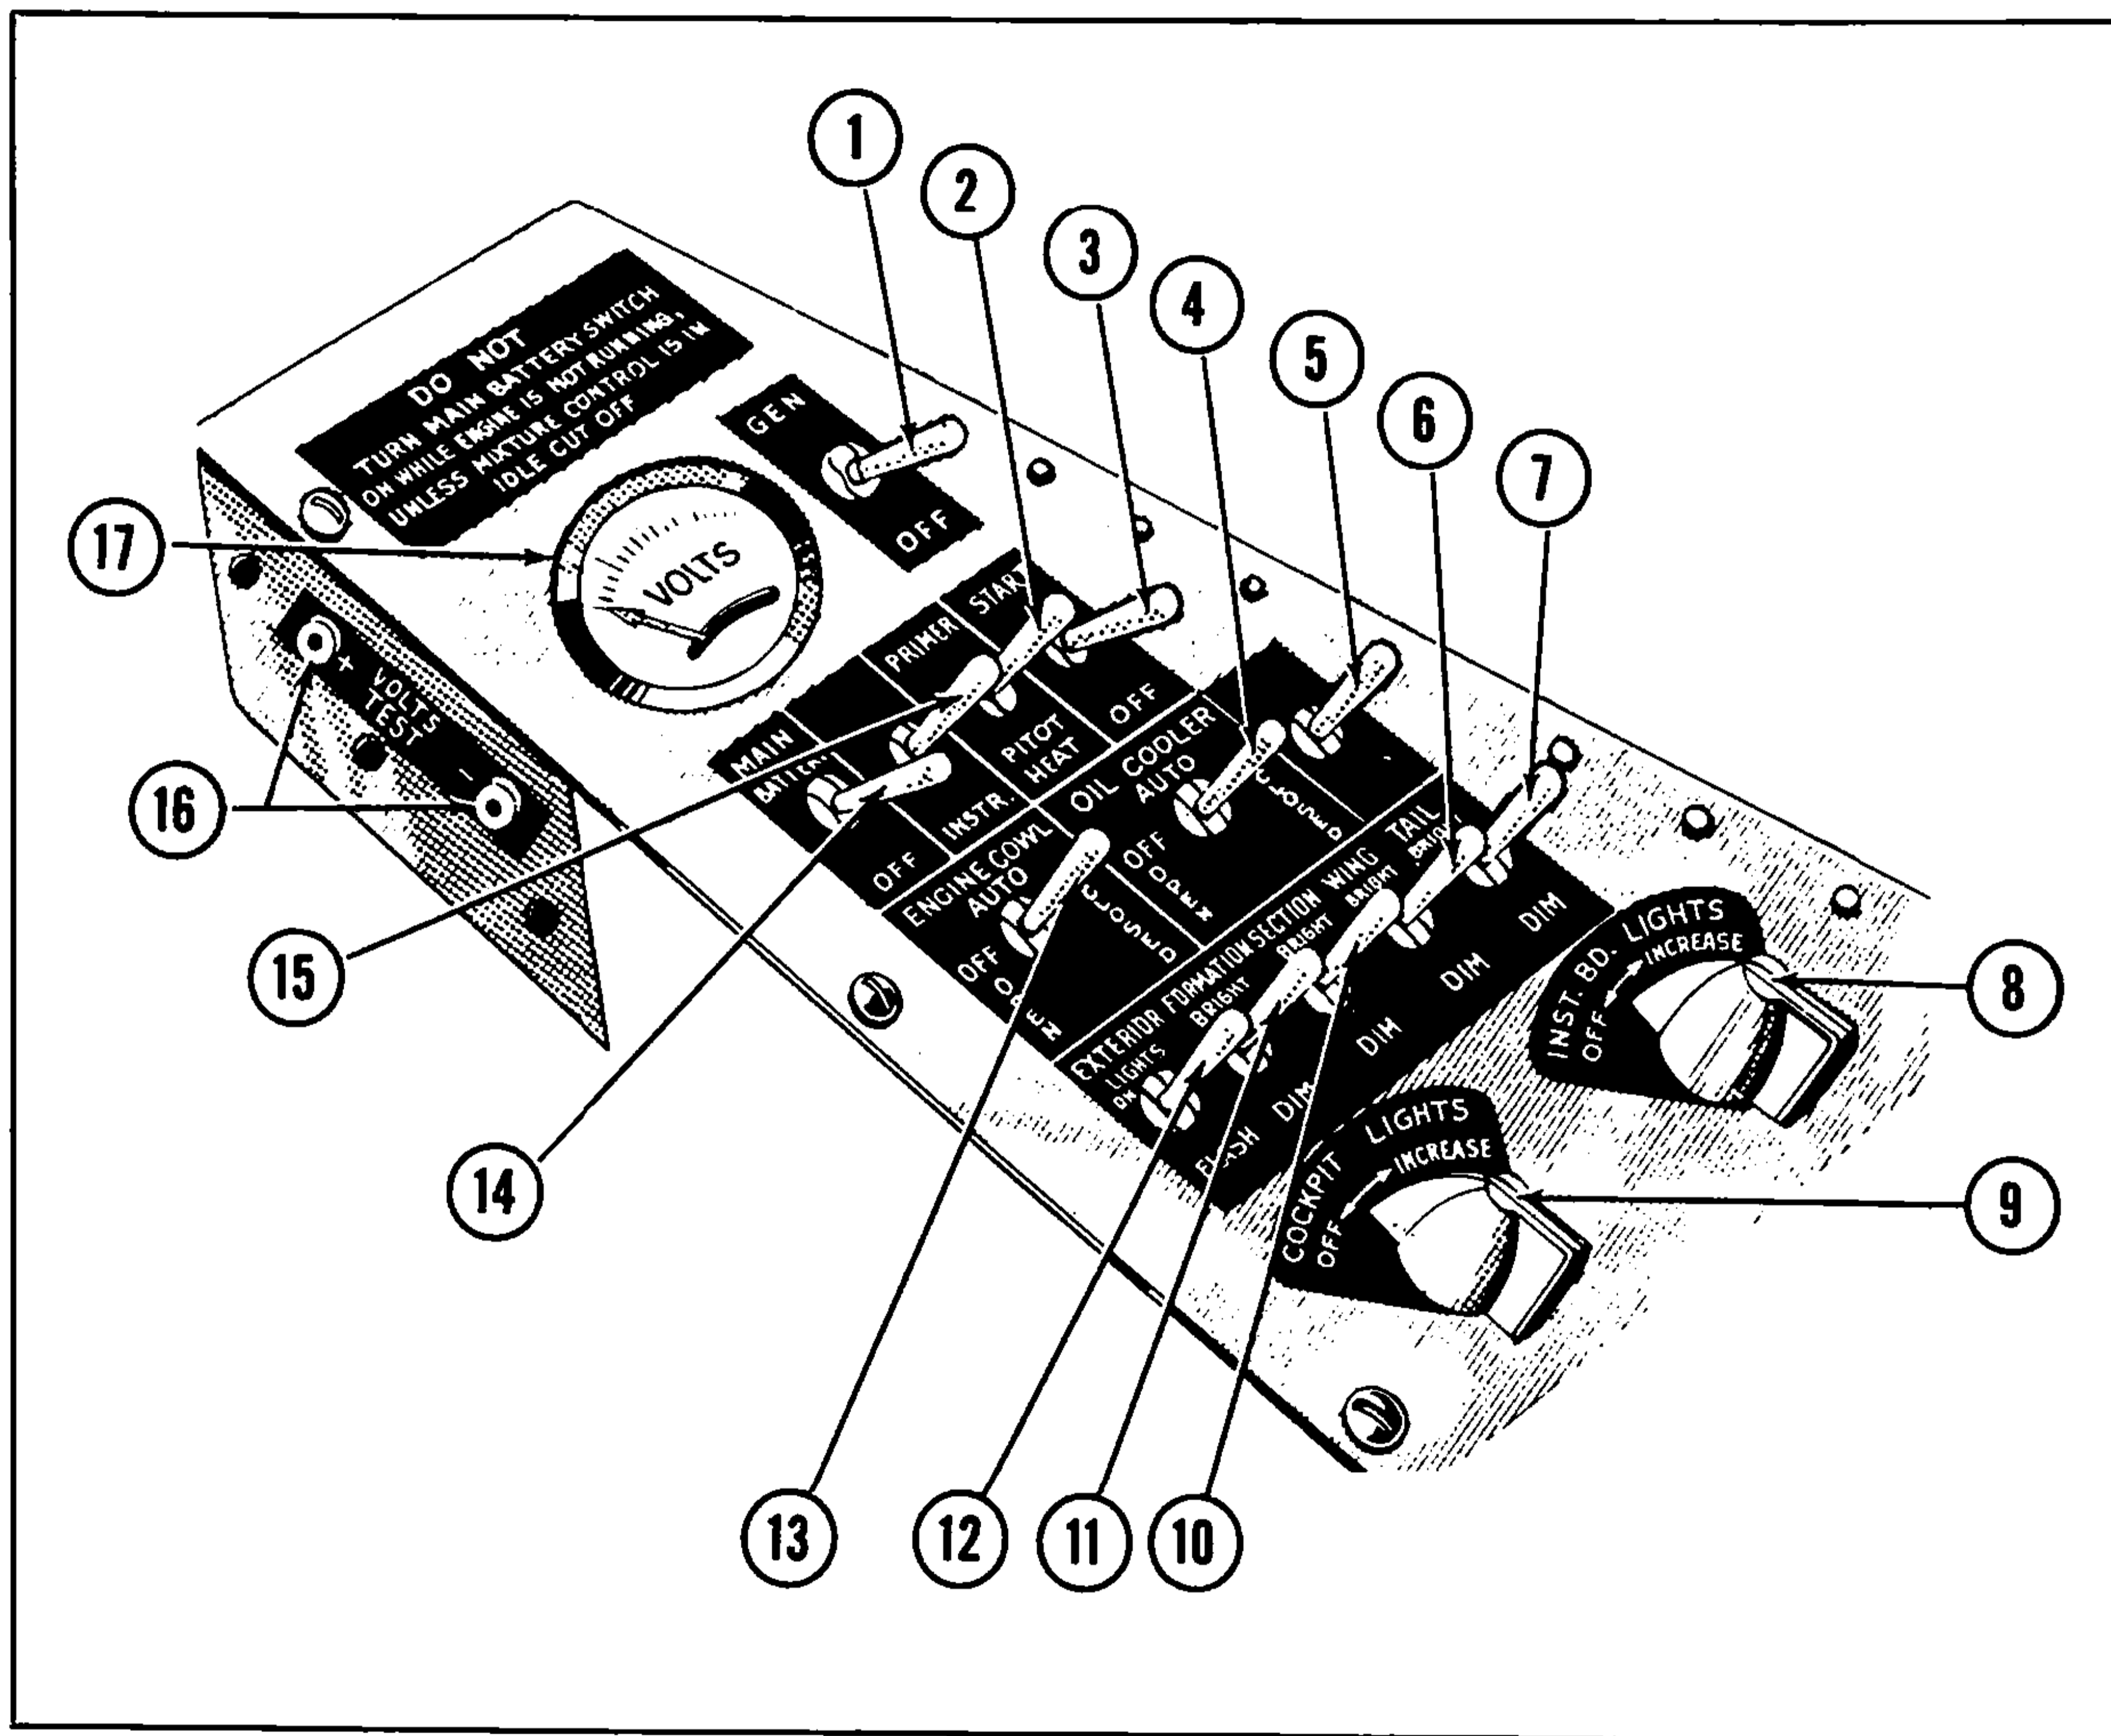

Figure 9 — Electrical Control Panel
(4) **COWL FLAPS CONTROL.** (See 13, figure 9.)
control panel (see 2, figure 9), a solenoid valve on the carburetor, and priming lines leading both to the intake valve chambers of the cylinders of banks 7, 1 and 2, and to the supercharger housing. Since priming is necessarily performed before engine starting, the fuel pressure necessary for priming is supplied by the submerged electrical fuel pump.